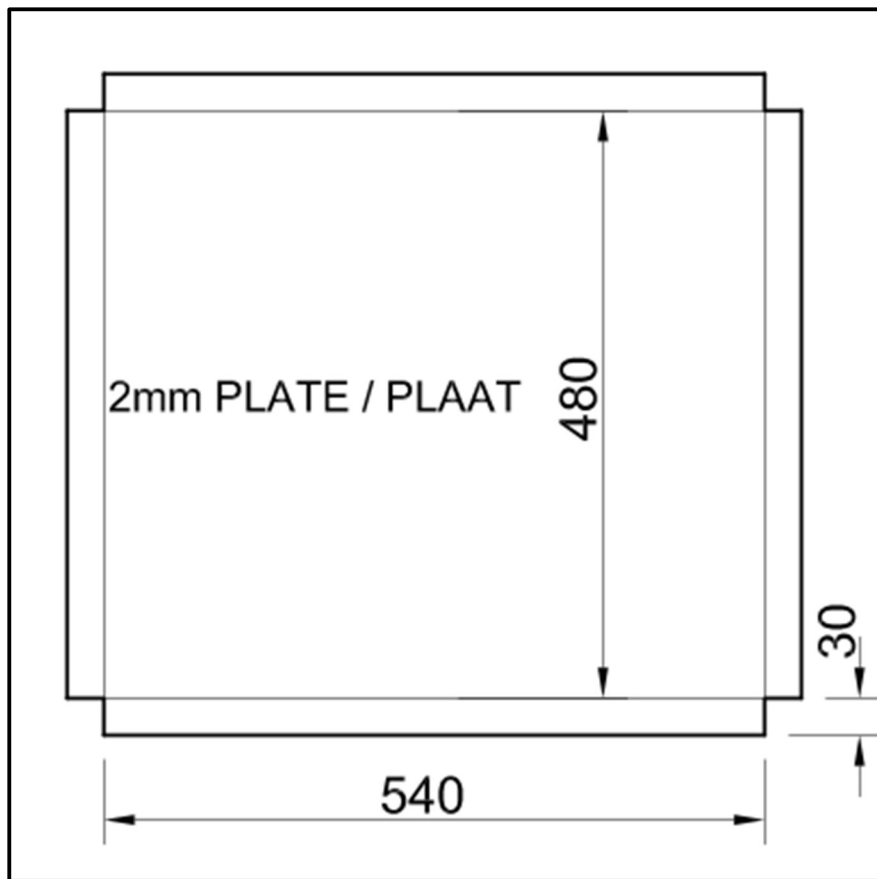

FIGURE 2 – ASH-PAN
- Mark out required size for the Ash pan indicated in Figure 2